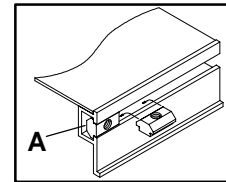

Figure 2
**NOTE:** For shipping, T-bars (A), Mounting Plate (B), Mounting Brackets (D) and Pushbutton Box (G) are pre-assembled. Detach T-bars before proceeding.
1. Insert two Single Drop-in T-bars (A of Figure 2) into conveyor T-slot.